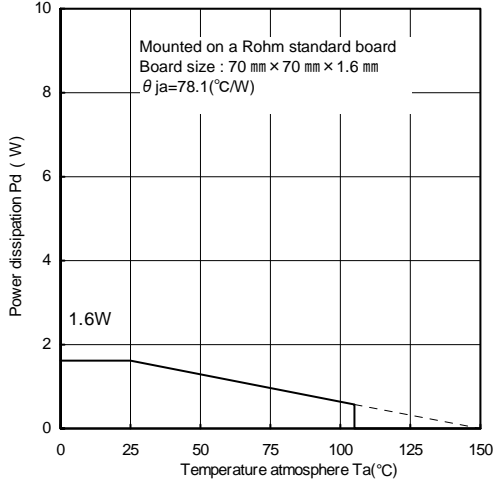
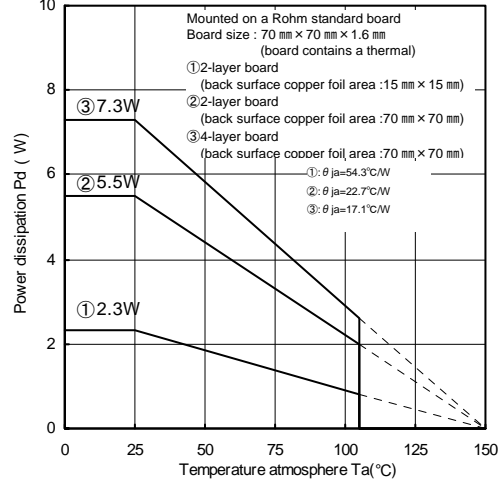

Fig.15
Fig.16 (Reference data)
When using at temperatures over $T_a=25^\circ\text{C}$, please refer to the heat reducing characteristics shown in Fig.15. and Fig.16. The IC characteristics are closely related to the temperature at which the IC is used, so it is necessary to operate the IC at temperatures less than the maximum junction temperature $T_{j\text{max}}$.
Fig.15 and Fig.16 shows the acceptable loss and heat reducing characteristics of the HRP5 package. Even when the ambient temperature T_a is a normal temperature (25°C), the chip (junction) temperature T_j may be quite high so please operate the IC at temperatures less than the acceptable loss P_d .
The calculation method for power consumption $P_c(\text{W})$ is as follows :(Fig.16③)
$\left[\begin{array}{l} \text{Fig.16③: } \theta_{ja}=17.1^\circ\text{C/W} \rightarrow -58.4\text{mW}/^\circ\text{C} \\ 25^\circ\text{C}=7.3\text{W} \rightarrow 85^\circ\text{C}=3.796\text{W} \end{array} \right]$